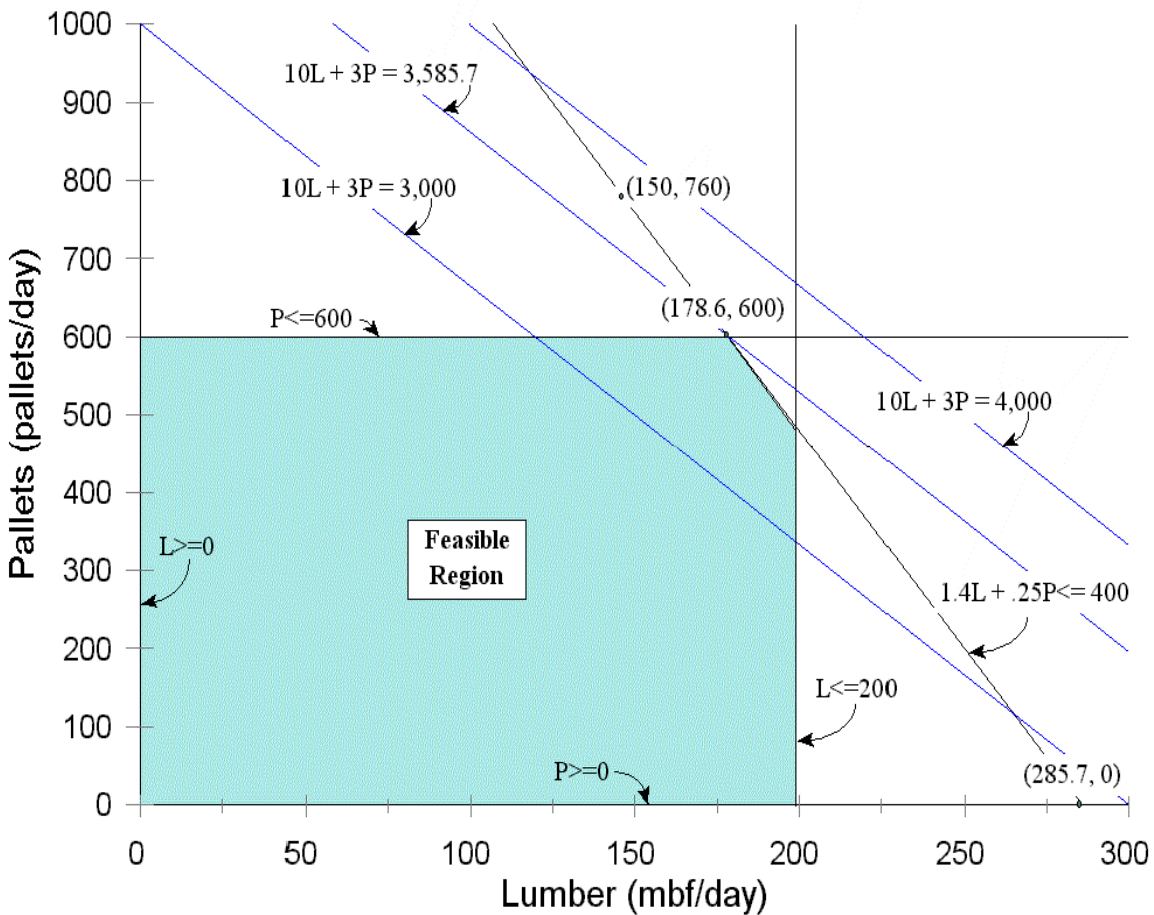

Figure 11.1. Graphical Solution of the Lumber Mill Linear Programming Problem.
Answer: To graphically solve a two-variable linear program, we use a graph whose axes represent the values of the two variables. Figure 11.1 on the next page shows a graph where the y-axis represents the number of pallets produced per day (P) and the x-axis represents the number of thousand board feet (mbf) of lumber produced each day (L). Note that each point on this graph represents a combination of specific values of L and P . For example, the point **A** represents a combination of 150 mbf of lumber and 200 pallets. Each point can be identified by its coordinates as follows: (L, P) . The point **A**
The first step is graphing the constraints. The first constraint says that lumber production must be less than 200 mbf/day. In Figure 11.1, this constraint is represented by the vertical line crossing the x-axis at 200 mbf. Since the constraint is a less-than-or-equal constraint, any point on the graph to the left side of this line satisfies this constraint.
The same techniques used earlier to graph the constraints can be used to graph this line. This line crosses the x-axis at the point (300,0) and the y-axis at the point (0, 1,000). Note where this line is in Figure 11.1. It crosses the feasible region between the points (120, 600) and (200, 333.3). (*Could you have identified these points?*) Any of the points on the line segment between these two points is feasible and will give an objective function value of 3,000.
This line crosses the x-axis at the point (400, 0), and it crosses the y-axis at the point (0, 1,333.3). Locate the line in Figure 11.1. This line does not intersect the feasible region at any point. This means that there are no points that are feasible that give an objective function value of 4,000.
The daily net revenue with this production strategy will therefore be \$3,585.7. This value of the objective function — 3,585.7 — gives a line that just touches the feasible region at the point (178.6, 600). This line is shown in Figure 11.1.